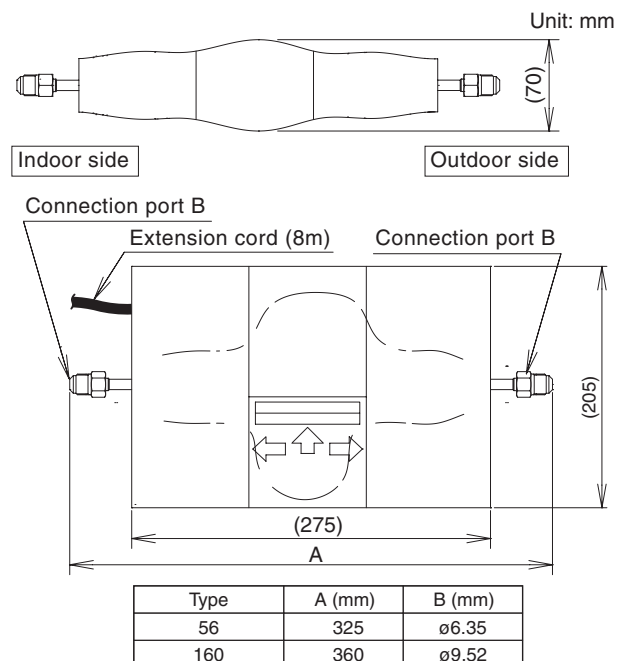

Fig. 2-280 Diagram of outer dimensions
- The valve should be connected to the liquid tube. Determine the position for installation referring to the diagram of outer dimensions. (Fig. 2-280) Refrigerant-flow noise may occur from the external electronic expansion valve. As a guide, the distance from the indoor unit should be a minimum of 5 m, but less than 8 m. (Install away from locations where strictly quiet operation is required.) If this distance is unavailable, install inside the ceiling or in another location where noise insulation is possible. This is a functional component, and therefore may require inspection and replacement. Consider this when deciding the installation location. (For example, place near an inspection port, or provide one.)